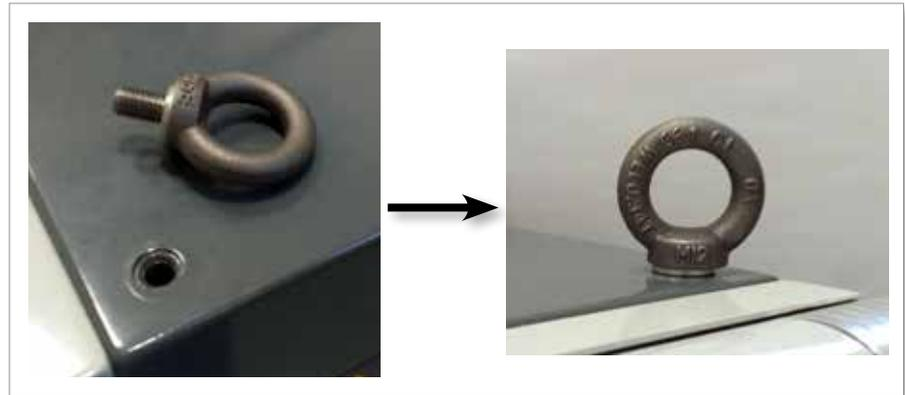

Figure 3-10 Install eyebolts and washers
- Assemble eyebolts and washers and install into the holes on the top of the E-Multi controller. See Figure 3-10.